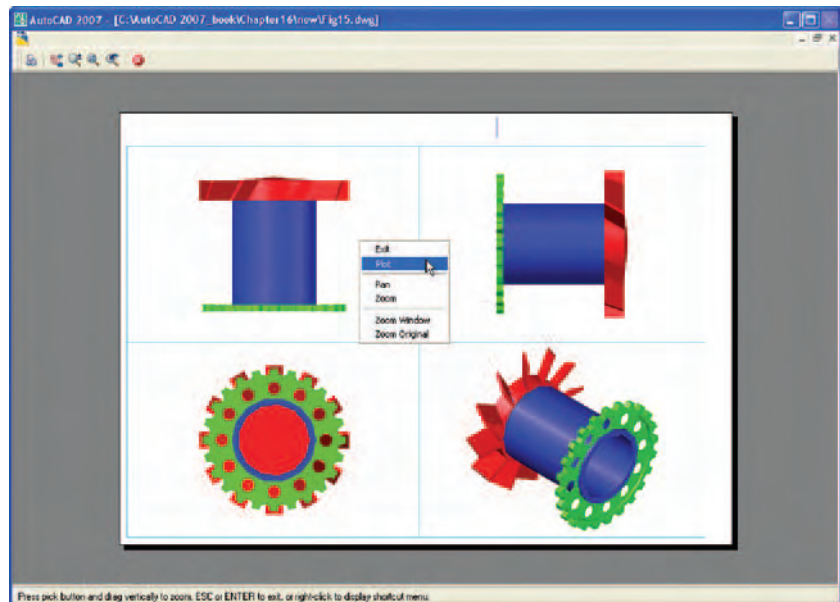

Fig. 15.46 Second example – multiple view copy
Second example – multiple view copy (Fig. 15.46)
3. Click the **Layout** button in the status bar. The drawing appears in **Pspace**. A view of the 3D model appears within a cyan coloured viewport (Fig. 15.46).
6. If the preview is satisfactory (Fig. 15.46), *right-click* and from the right-click menu click **Plot**. The drawing plots to produce the required four-viewport hard copy.